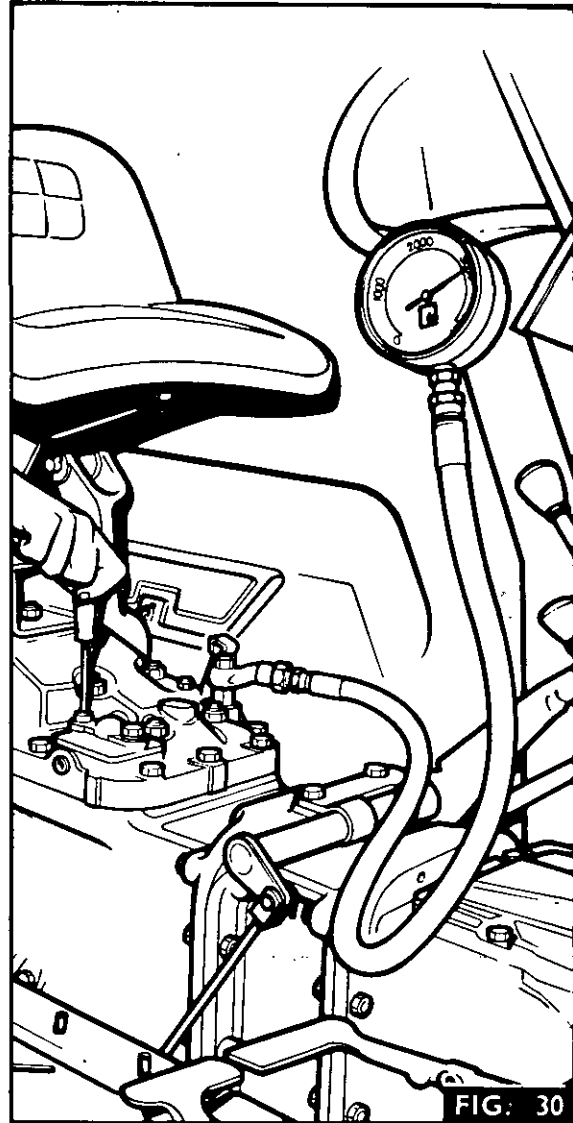

FIG. 30
2. Fig. 30. Remove the rear bolt from the stand pipe cap and fit MF 357.